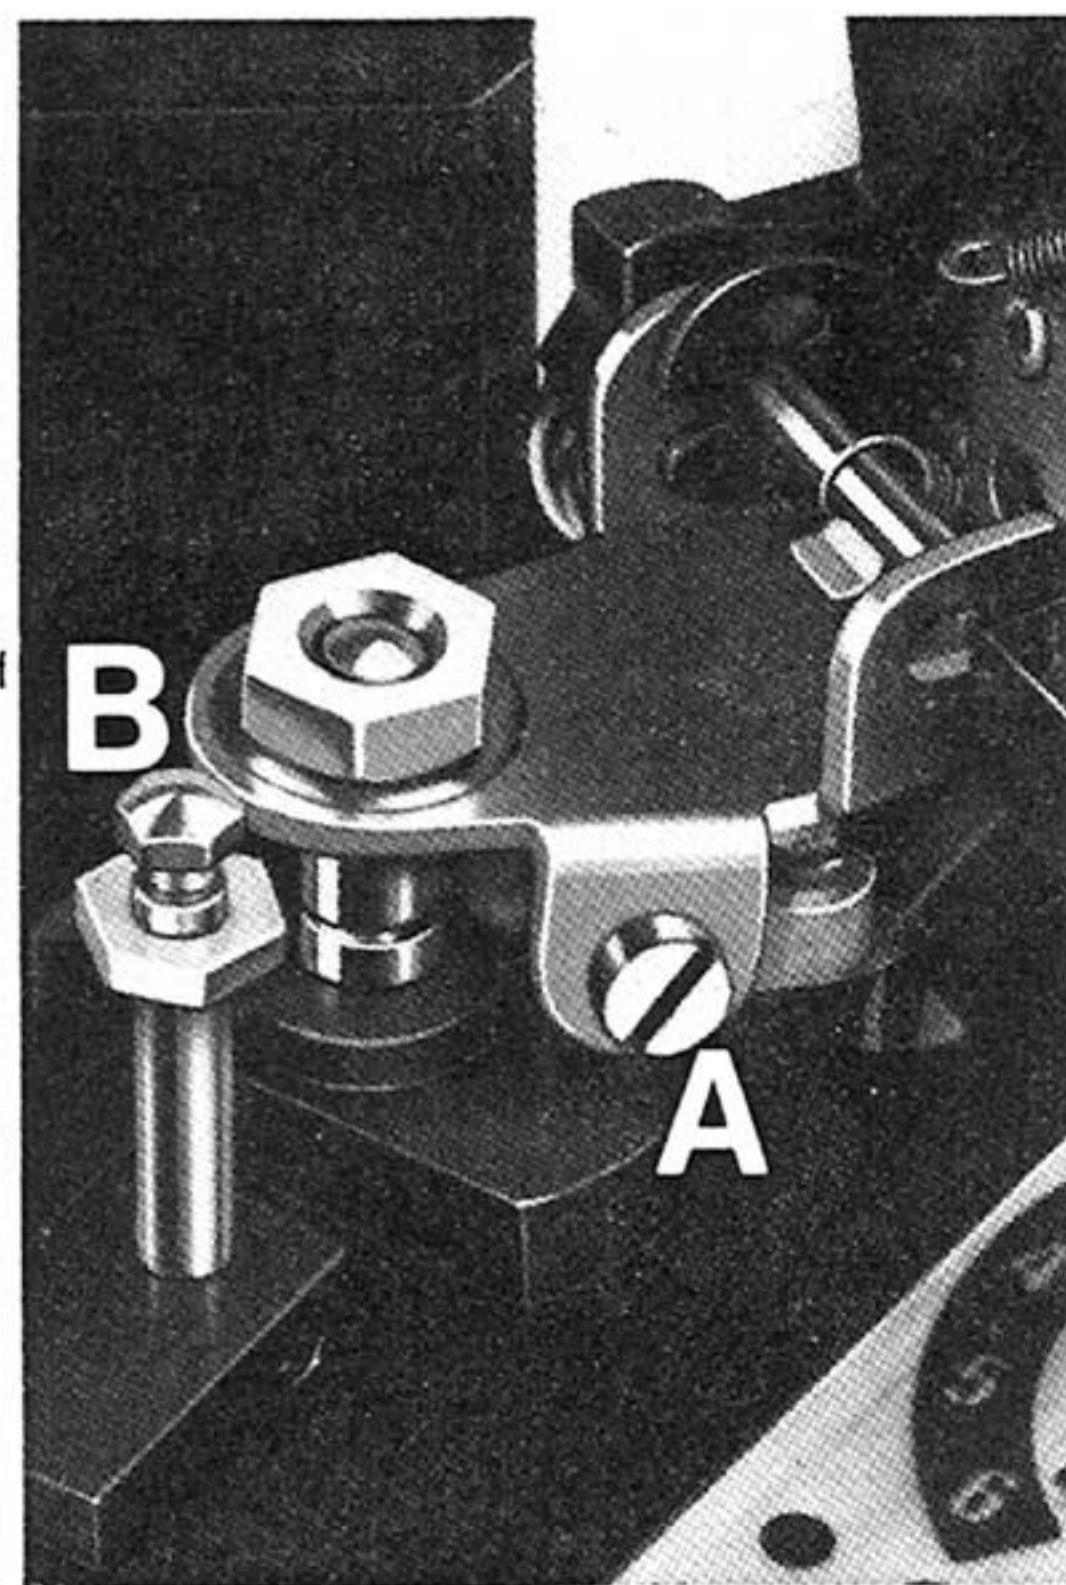

Fig. 4 PICK-UP HEIGHT AND SET DOWN ADJUSTMENT
3. **Stylus Set-down.** The correct position for stylus set-down is $\frac{1}{8}$ " from the edge of the record. The position is adjusted by the stylus adjusting screw (Fig. 4, A) and is best done with a stack of 12" records on the turntable. When correctly positioned for a 12" record the set-down will also be correct for 7" and 10" records. Turn adjusting screw clockwise to move stylus set-down nearer to edge of record or anti-clockwise to move set-down further away from edge of record.
4. **Pick-up Arm Height.** The pick-up arm height is correctly adjusted when the stylus clears by $\frac{1}{8}$ " the top of a stack of eight average thickness records on the turntable. The pick-up arm height may be raised by turning the pick-up height adjusting screw (Fig. 4, B) anti-clockwise and lowered by turning clockwise. After any adjustment a check must be made to ensure that the pick-up clears the underside of records held on the centre spindle ledge and is also secured by the automatic pick-up arm lock.